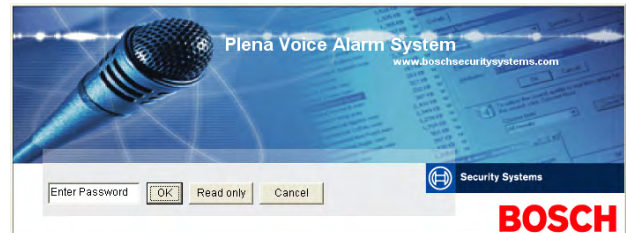

figure 8.9: Password
- 2 Double-click the Plena Weekly Timer Configuration icon. A window similar to the one in figure 8.9 will appear.